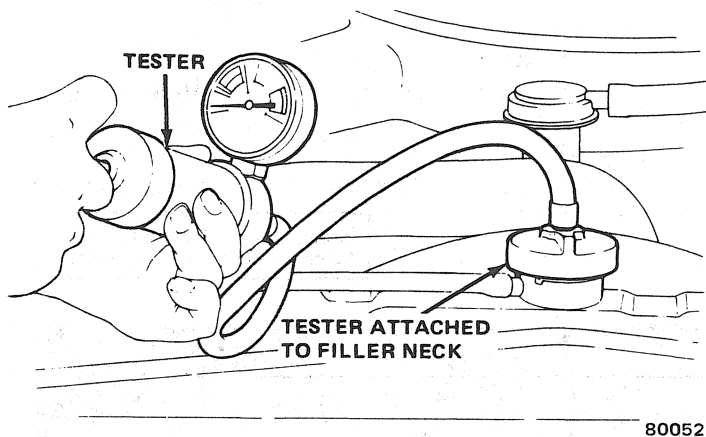

Fig. 1C-15 Cooling System Pressure Test
(2) Wipe inside of filler neck and examine lower inside sealing seat for nicks, cracks, paint, dirt and solder bumps.
(3) Inspect overflow tube for internal obstructions. Insert a wire through tube to ensure it is clear.
(4) Inspect cams on outside of filler neck. If cams are bent, seating of pressure cap valve and tester seal will be affected. Bent cams can be reformed if done carefully.
(5) Attach pressure tester to filler neck (fig. 1C-15).